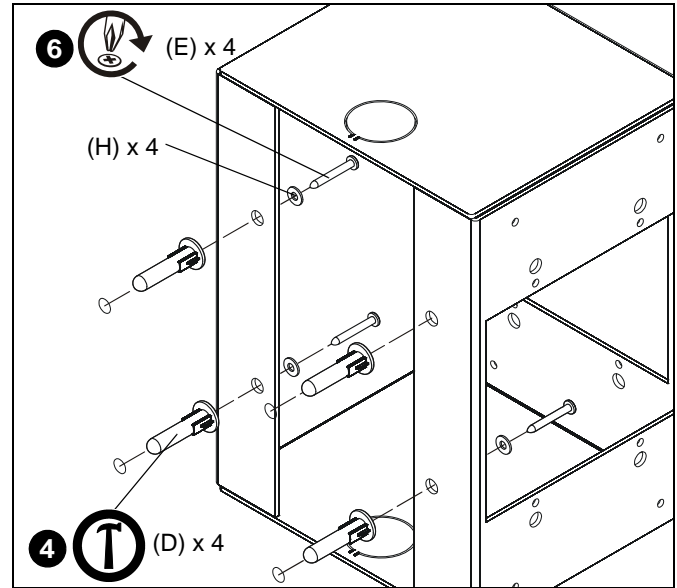

Figure 2
4. Install four 1/4" alligator anchors (D) into drilled holes. (See Figure 2)
5. Place electrical box (A) against wall lining up the holes on the back with the installed anchors (D). (See Figure 2)
6. Install four #10 x 1 3/4" Phillips screws (E) through #10 washers (H), holes in electrical box (A) and into installed anchors (D). (See Figure 2)